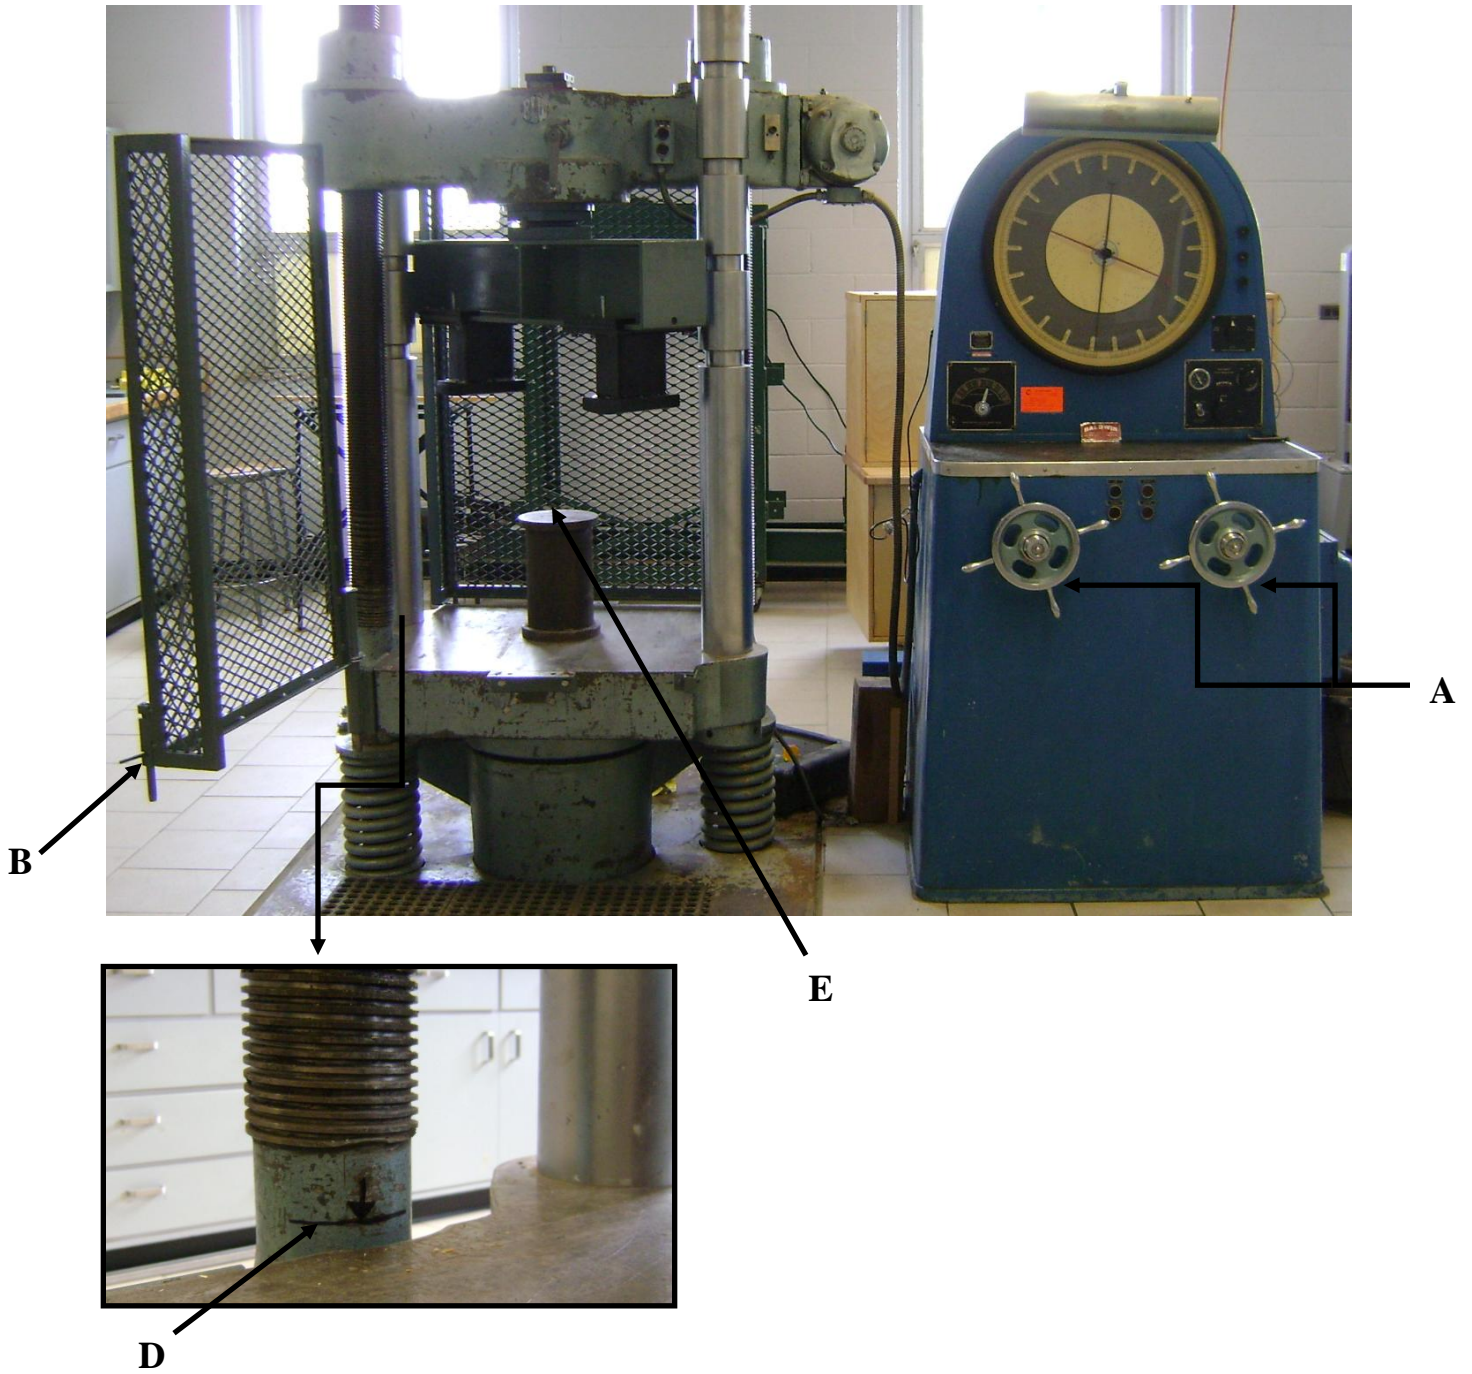

Figure 1. Baldwin Compression/Tension Machine
Note: Before starting the pump, ensure that the fine and coarse load adjust wheels are closed (Turn tightly clockwise) **Figure 1 (A)**
- Open the front guard door **Figure 1 (B)**
- Use “right” load adjust wheel (turn counter-clockwise) to raise the bed to the indicated line **Figure 1 (D)**
- Turn “right” adjusting wheel (clockwise) to close valve **Figure 1 (A)**
- Properly place specimen (centered on base plate) **Figure 1 (E)**
- Use right loading wheel to bring up the base to touch the cross-head **Figure 1 (A)**
- Maintain proper loading rate using center dial (right-wheel) **Figure 1 (A1)**
- Turn “right” load adjust wheel clockwise **Figure 1 (A)**
- Turn “left” load adjust wheel clockwise **Figure 1 (A)**